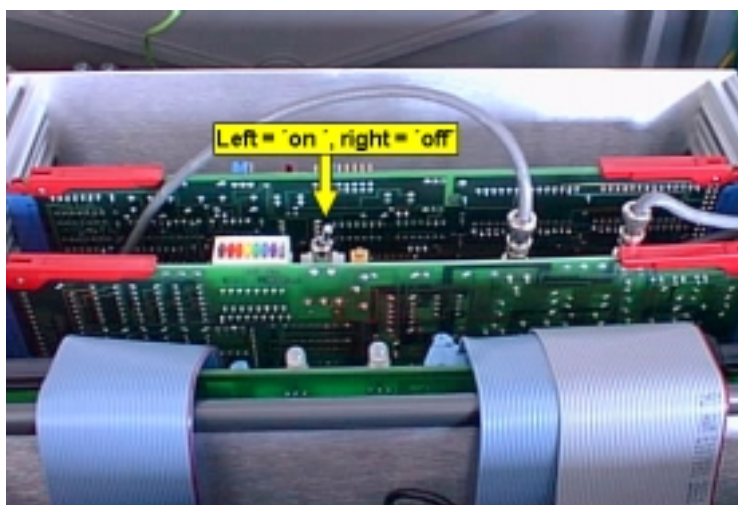

Figure 82 Photomultiplier switch
2. Turn off the voltage to the photomultiplier, as shown in Figure 82.